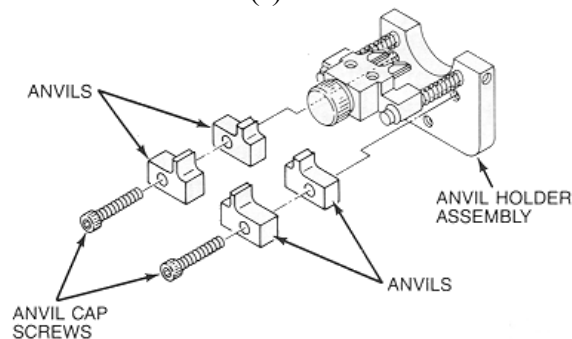

Figure 8
- Remove the cap screw(s) and defective anvil(s) from the anvil holder assembly (see Figure 8).